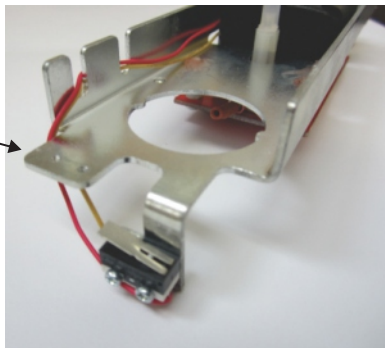

Figure 2
Inspect the alarm board assembly to make sure wires are routed as shown in Figure 2.
- a. If the wires are loose or not routed correctly, please re-route using Figure 2 as a reference before installation.